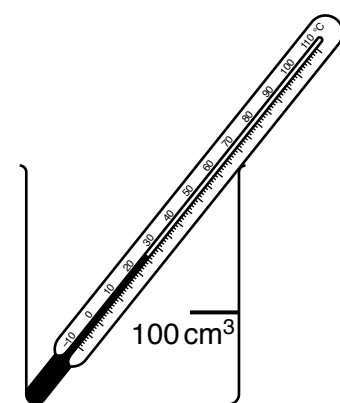

Fig. 2.1
1. The beaker and thermometer should be supplied to candidates as shown in Fig. 2.1, without water in the beaker. If the beaker does not have graduations, an indelible mark must be made at the 100 cm3 level and labelled '100 cm3'.
Check that the apparatus is intact and arrange as shown in Fig. 2.1.